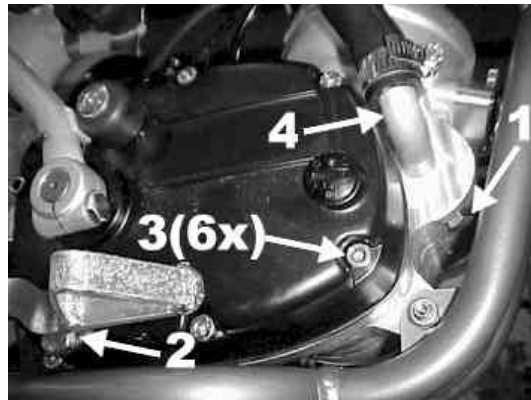

Figure 1
- Using a 13 mm wrench, remove the oil drain bolt located on the right side of the engine, on the clutch cover, near the brake lever (Item 2, figure 1).